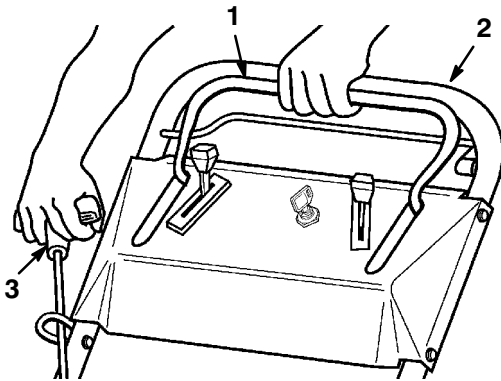

Figure 13
4. Hold the blade control bail against the upper handle (Fig. 13).
Pull the starter handle (Fig. 13) lightly until you feel resistance, then pull sharply. Let the rope return to the handle slowly.